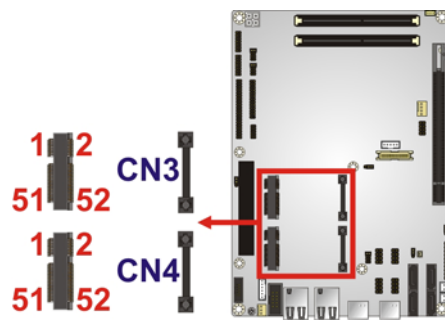

Figure 3-13: PCIe Mini Card Slot Location
- CN Location:** See **Figure 3-13**